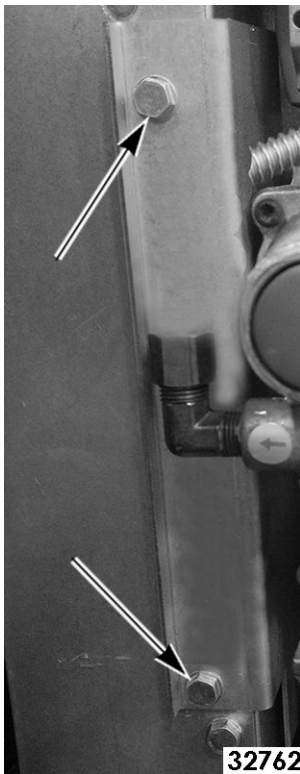

Fig. 23
6. Remove screws (Fig. 23) securing gas mount bracket to oven.